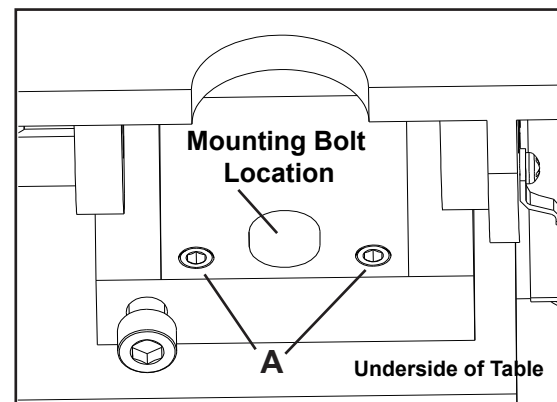

Figure 7
The table may also be set at 90° to the back of the saw blade by adjusting the four trunnion micro adjustment screws found in the base of the lower trunnion (A-Fig.7). Slightly loosen part #134 mounting bolt (refer to parts explosion on page 28 of this manual). Using the 3mm “L” wrench provided, turn the trunnion micro adjusting screws #266, as needed, to achieve desired setting. Turning the screws clockwise will raise the trunnion; counterclockwise will lower. Check table for 90° and tighten part #134.
**NOTE:** The Trunnion (Fig. 7) is shown removed from bandsaw for clarity. Micro adjusting screws are raised to exaggerate their location. Only two of the four micro adjusting screws are shown.